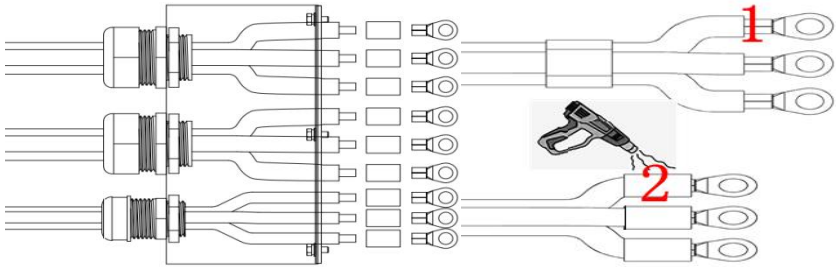

Fig. 6.3.2.2
- ④. Fix the wiring terminals shown in Fig. 6.3.2.2 to the LOAD terminal block on the case shown in Fig. 6.3.2.1 (three ones in middle of the AC terminal block) with the screws (provided for free). At the same time, respectively match L, N, PE with the L, N and PE on the case. Then fix the waterproof cover shown in Fig. 6.3.2.1 to the case with the screws, and tighten the waterproof cap 5 shown in Fig. 6.3.2.1.